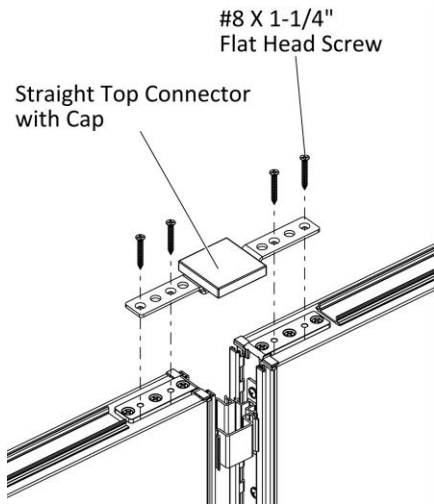

Figure 9
- Securely fasten the straight top connector with cap into the panels with four #8 X 1-1/4" Flat Head Screws, (Figure 9).